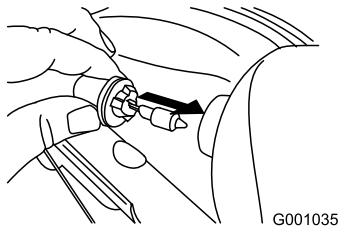

Figure 58
4. Insert a new bulb into the back of the headlight (Figure 58).